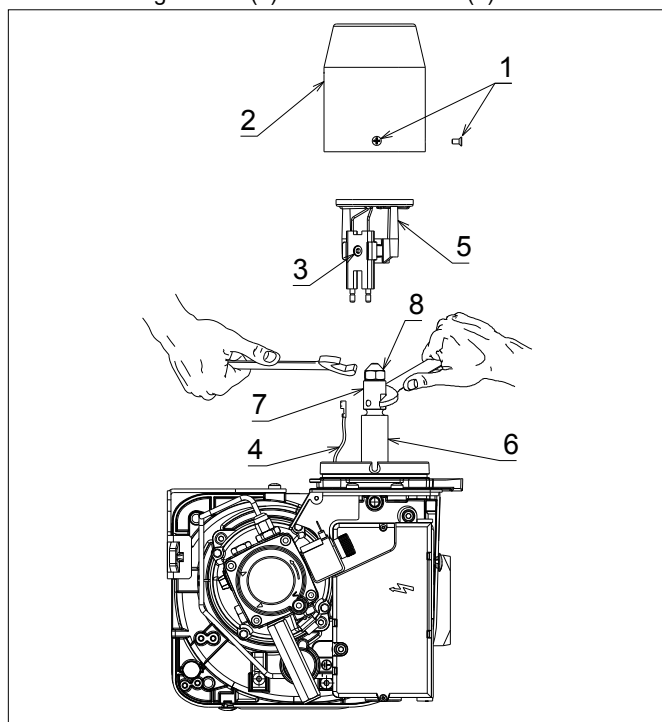
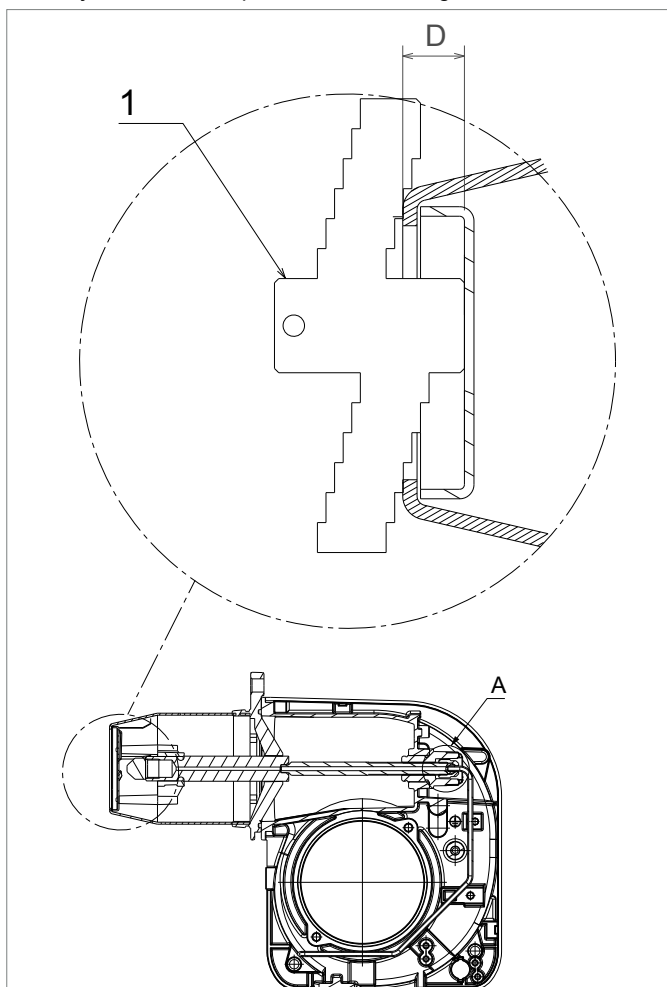

Figure 10-3: Burner head, diffuser and nozzle holder
Figure 10-5: Riello RDB 2.2 BX diffuser position and gauge plate
1. Remove the burner head. Refer to Figure 10-3. Loosen the three fixing screws (1) and remove head (2) from burner.
3. If the nozzle needs to be replaced - remove the diffuser/electrode assembly. Refer to Figure 10-3.
- Using a 4 mm Allen key, loosen the diffuser fixing screw (3) on the electrode assembly.
- Lift diffuser/electrode assembly (5) up and off the nozzle holder.
- Disconnect both ignition leads (4) from the electrodes.
4. Use a 16 mm spanner to remove/re-fit the nozzle (8), whilst holding the nozzle holder (6) using a 19 mm spanner.
5. Re-fit the diffuser/electrode assembly. Refer to Figure 10-3.
- Reconnect ignition leads (4) to electrodes.
- Re-fit the diffuser/electrode assembly (5) onto the nozzle holder lining up the fixing screw with the recess in the nozzle holder.
- Tighten the fixing screw (3) to secure the diffuser/electrode assembly in place on the nozzle holder.
7. Re-fit the burner head. Refer to Figure 10-3.
- Locate the head fixing screws (1) in the countersunk slots in the burner collar.
- Tighten the three screws (1) to secure the head (2) in position on the burner.
8. Adjust the diffuser position. Refer to Figure 10-5.
- Position the gauge plate on the burner head as shown in Figure 10-5.
- If necessary, adjust distance D using the black adjustment knob located around the oil supply pipe on the front of the burner. Refer to item A (Figure 10-5). Re-check distance D using the gauge plate, as described above.